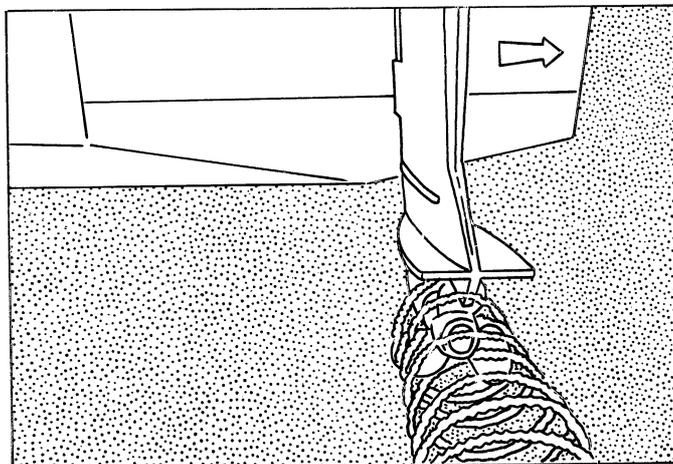

Figure 9:1—Sideways Torque
- 9.4** Most propellers rotate clockwise to move forward. This creates a sideways torque that tends to 'walk' the motor to the right when the propeller is turning. (See Figure 9:1). This effect will cause a boat to turn to port more readily than starboard, and can be quite useful in low speed manoeuvring.